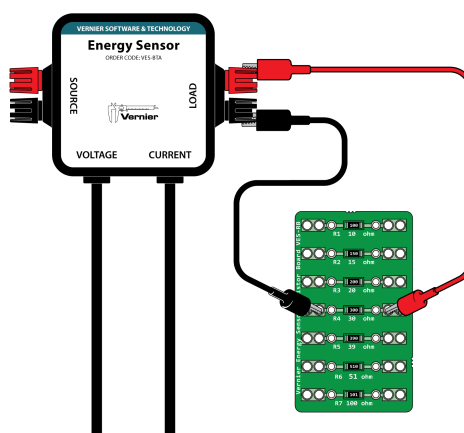

Figure 4
- a. Clip one wire to the black Load terminal and then to the hole on the left side of the 30 Ω resistor (see Figure 4).